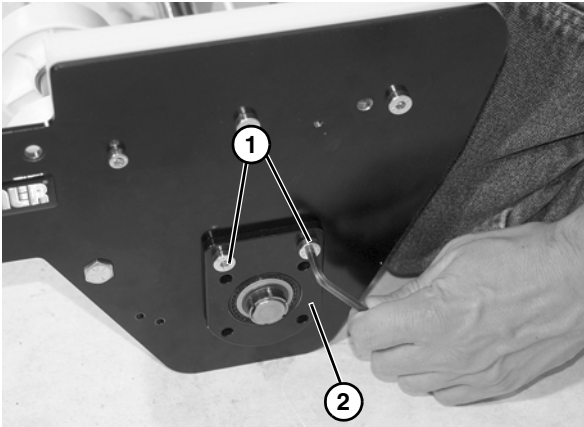

Figure 53
9. Remove two socket head screws (Figure 53, item 1) and remove plate (Figure 53, item 2).